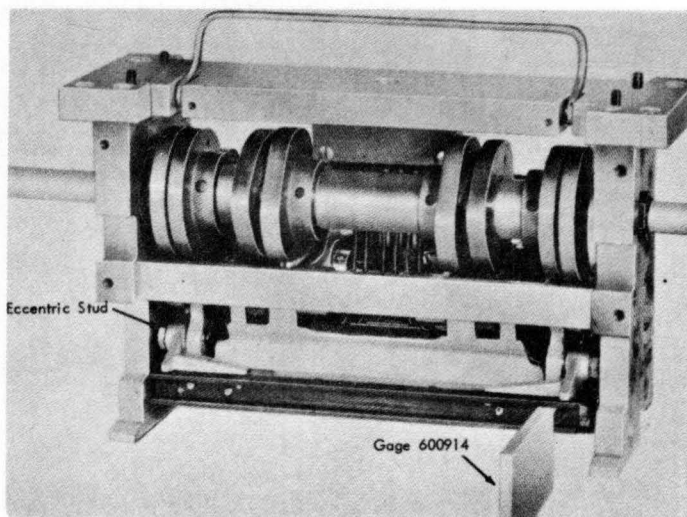

Figure 4-30. Interposer Setup Bail Adjustment
2. Set the punch unit on a flat surface and place gage (P/N 600914) as close as possible to the right side frame (Figure 4-30).